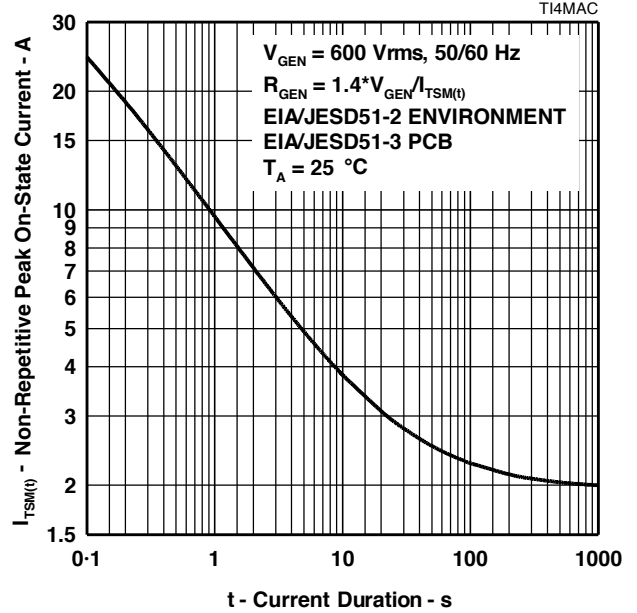

Figure 11.
10. EIA/JESD51-2 environment and EIA/JESD51-3 PCB with standard footprint dimensions connected with 5 A rated printed wiring track widths. See Figure 11 for the current ratings at other durations. Derate current values at -0.61 %/°C for ambient temperatures above 25 °C .